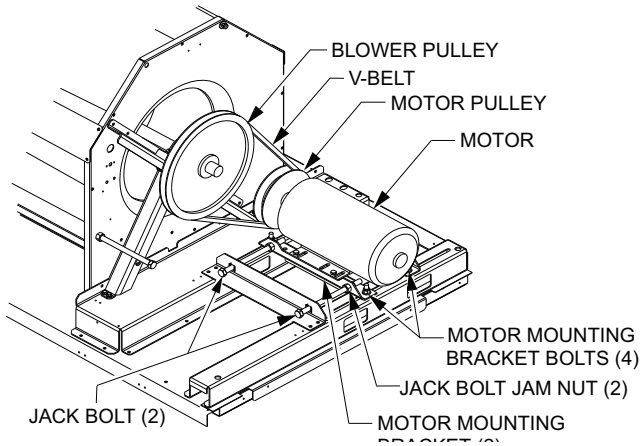

Fig. 10 — Replacing Belt-Driven Motor
When replacing the motor, use the following steps. See Fig. 10.
22. Set new motor and motor mounting bracket back onto the unit. See Fig. 10.